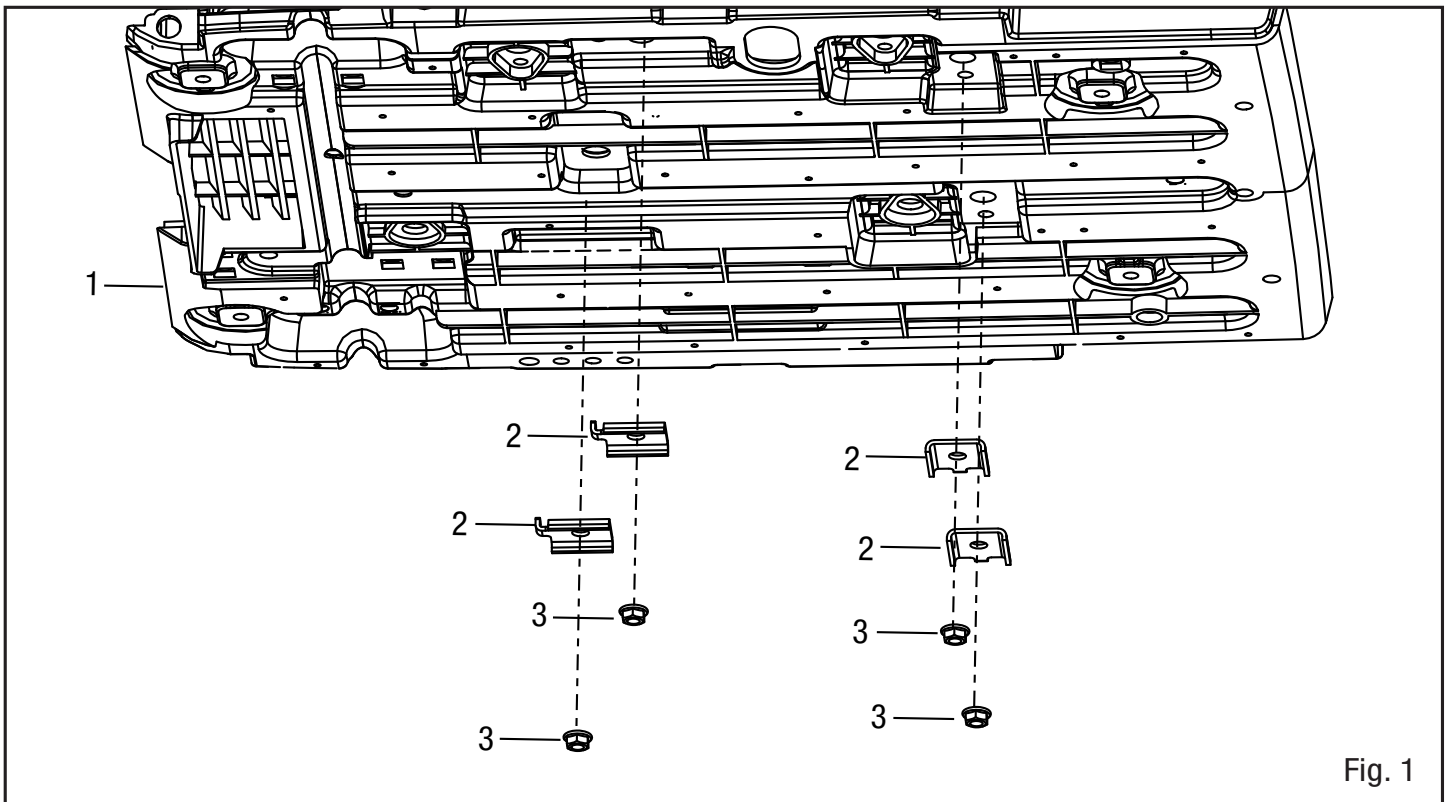

Fig. 1
2. Remove the four nuts (Fig. 1 - 3) and mounting plates (Fig. 1 - 2) from the generator's baseplate (Fig. 1 - 1).